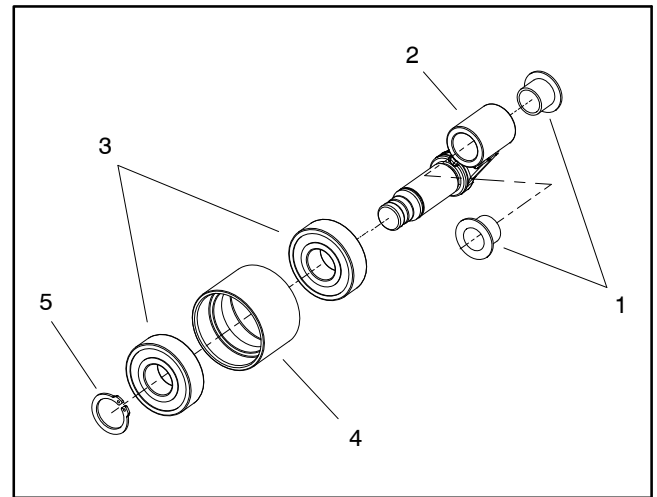

Figure 23
4. Remove seven (7) washer head screws that secure the drum drive cover. Remove cover to expose the drum drive system.
5. Remove and discard gasket (item 3) from between cover and housing.
6. Carefully remove the end of the extension spring (item 9) from idler arm.
7. Remove shoulder screw (item 15) that secures the idler arm assembly to the drum drive housing. Remove idler arm assembly from housing.
8. Disassemble idler arm assembly as needed (Fig. 23). Replace worn or damaged bearings and bushings.